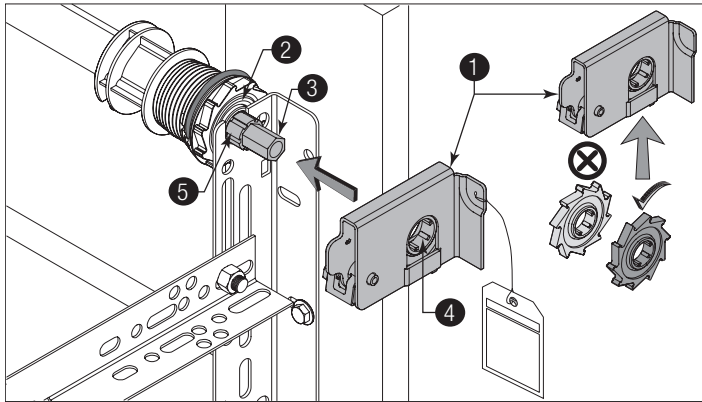
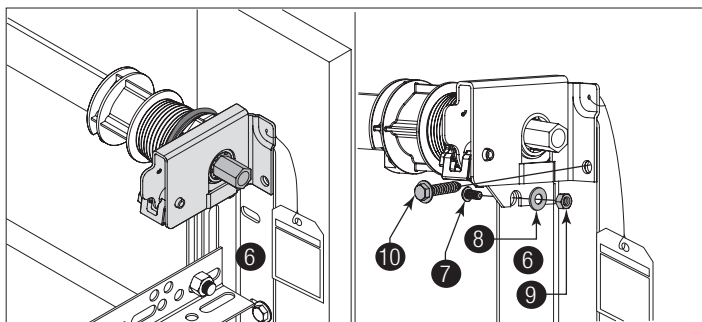

Figure 43, Right Side Shown
Figure 44
See Figure 43 and Figure 44 for the following steps.
**NOTE:** If ratchet wheel falls out of end bracket, refer to Figure 43 for proper insertion orientation.